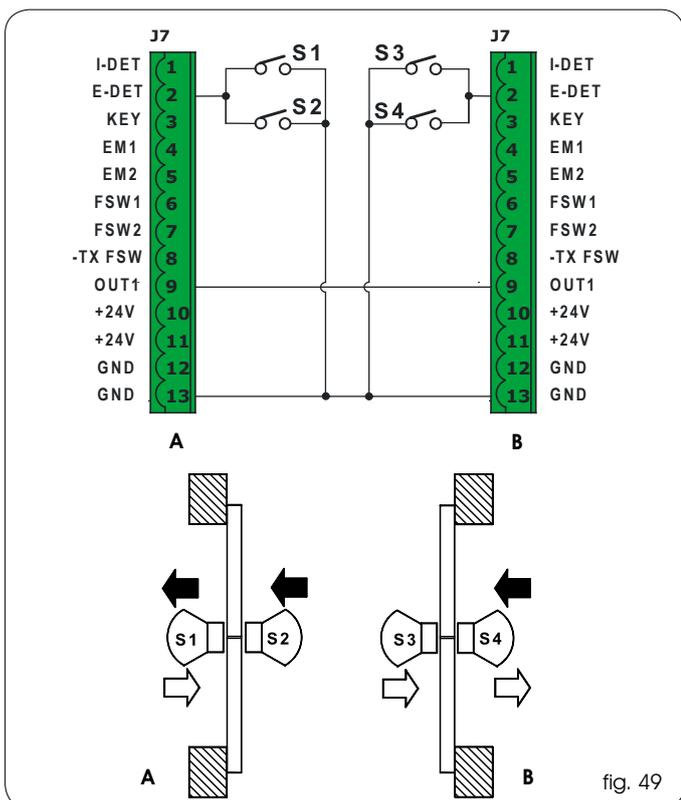

fig. 49
- Make the connections between the J6 terminal boards of the two E100 control boards and the sensors as shown in figure 49.